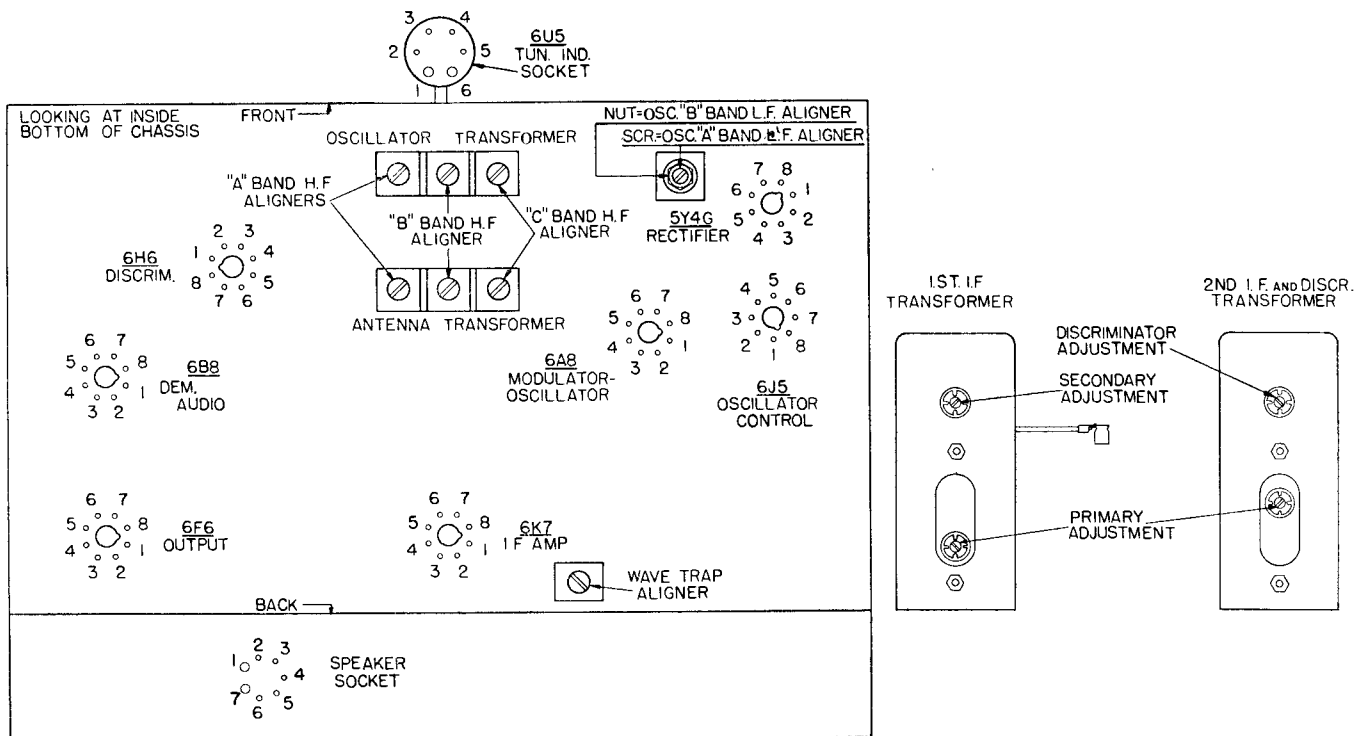

Fig. 1. Terminal Layout for Voltage Measurement Chart and Location of the Aligning Adjustments for the R. F., I. F. and Discriminator Circuits.
The various values of voltages listed in the following table are obtained by measuring between the various tube socket contacts and the chassis base, with the tubes in their respective sockets. The receiver is, therefore, in operation when the measurements are made. Figure 1, shows the terminal layout of the sockets with the proper terminal numbers.
3. Now, noting from Fig. 1, the alignment adjustments for the First and Second I. F. transformers, align the I. F. circuits in the following order: